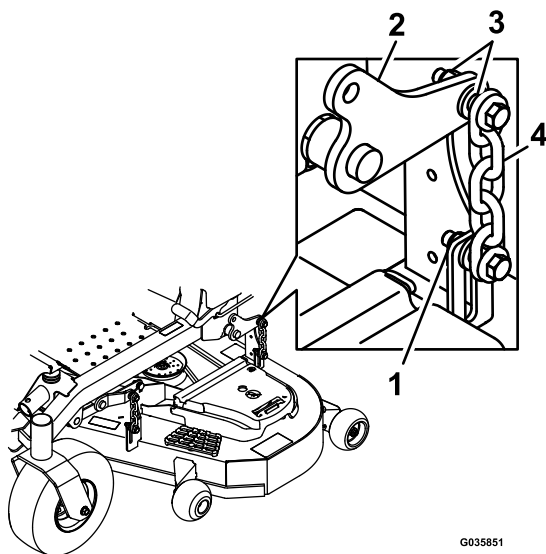

Figure 105
15. Loosen the locknuts (Figure 105) on all 4 corners and ensure that the mower deck is sitting securely on all 4 blocks.